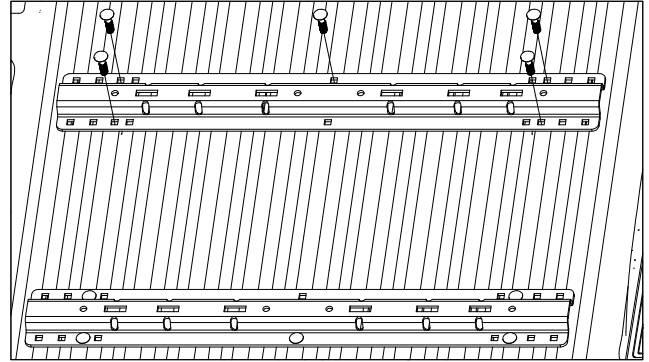

Figure G1: View looking down into bed from rear of truck.
1. Install the forward mounting rail. Re-position the forward mounting rail over the drilled 9/16" holes in the bed. Install five 1/2" x 2" carriage bolts through the five drilled positions, as shown in figure G1. Under the bed place a U-shaped spacer between the side plate flanges and the bed around each of the five carriage bolts. Secure each of the five carriage bolts with an offset rectangle washer, lock washer, and nut. Hand tighten hardware only at this time.